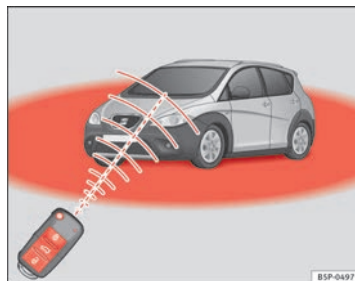

Fig. 63 Range of the remote control
- The remote control functions only when you are in range → fig. 63 (red area).